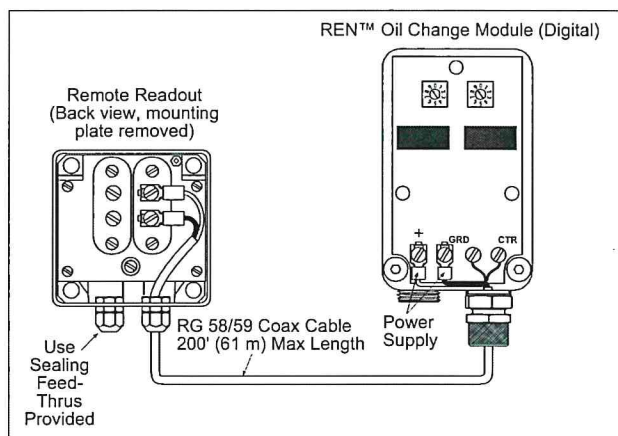

Figure 3 - Typical Wiring for a Single Remote Readout
**Step 6** - For connection to the module, the shield of the cable is connected as shown in Figure 3 and should not be grounded to machinery at more than one point, (multiple grounds can cause spurious signals to be counted and large spurious signals to 30 V positive or negative, but application of these voltages for more than a few minutes can damage the internal battery).